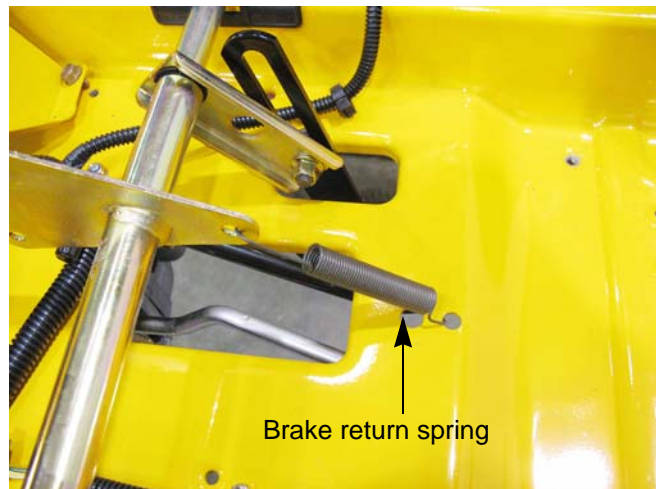

Figure 7.29
4. Remove the brake return spring. See Figure 7.29.
5. Remove the shoulder bolts that connect the lift links to the lift shaft arms using a 15/16" wrench and a 9/16" wrench. See Figure 7.29.